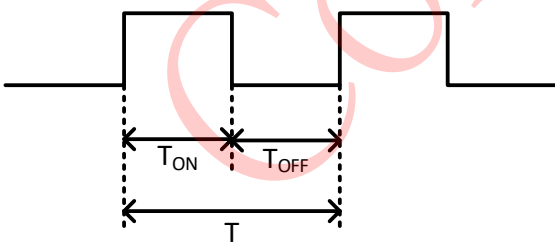
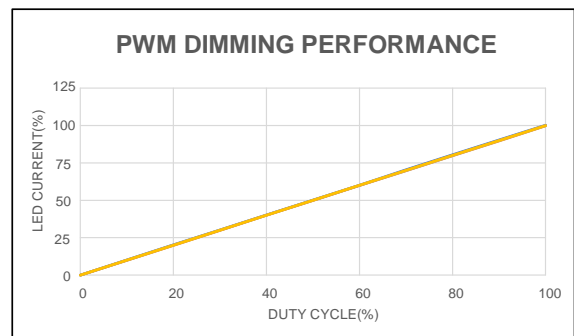

Figure 5. PWM dimming signal
Figure 6. Output current vs. PWM duty cycle
The duty cycle of the PWM signal is defined as the ratio of the LED on time (T_{ON}) to the entire cycle time (T). The duty cycle of the PWM signal is shown in figure 5. Figure 6 shows the current accuracy with different duty cycle.